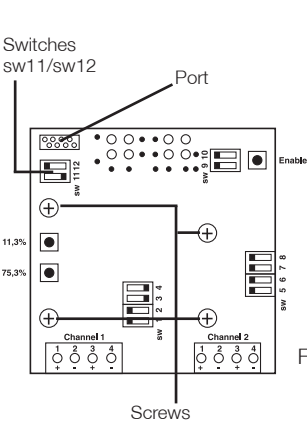

Fig. 1
- Remove the 4 screws from the device board (Fig. 1).